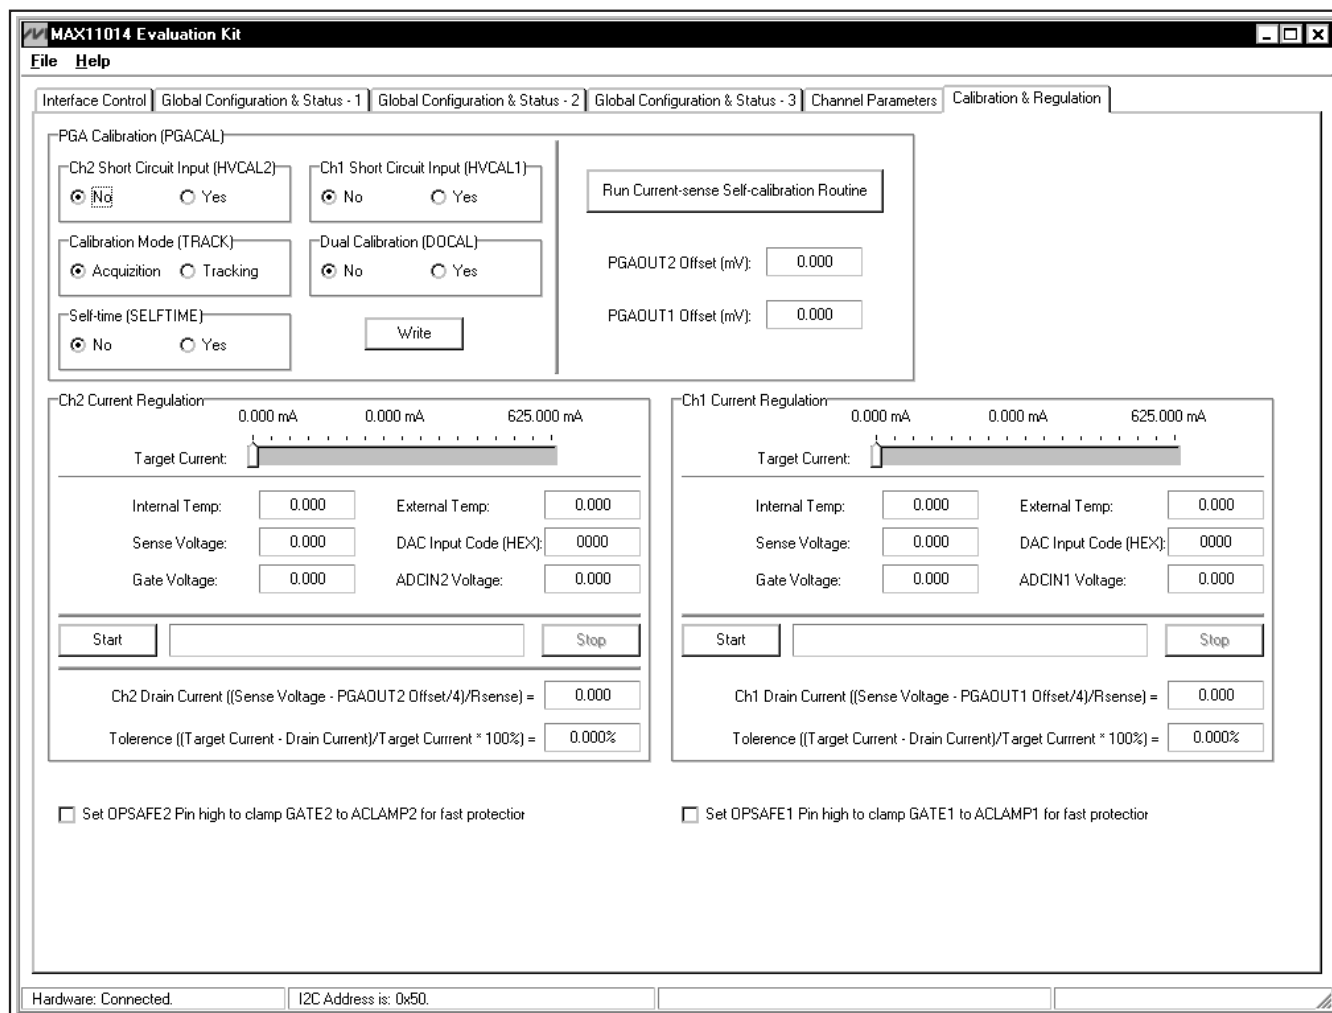

Figure 6. Calibration & Regulation Tab
- 10) On the **Calibration & Regulation** tab sheet (Figure 6), press the **Run Current-sense Self-calibration Routine** button.
The **Calibration & Regulation** tab sheet shown in Figure 6 provides access to the PGACAL register. Write to this register to calibrate the channel 1 and channel 2 current-sense amplifiers.